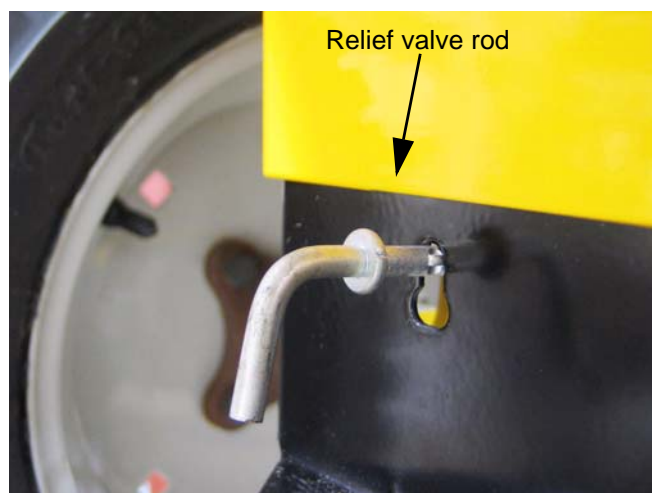

Figure 31.1
31.1. The relief valve is operated using a heavy rod that is visible at the bottom left corner of the rear of the tractor frame. See Figure 31.1.